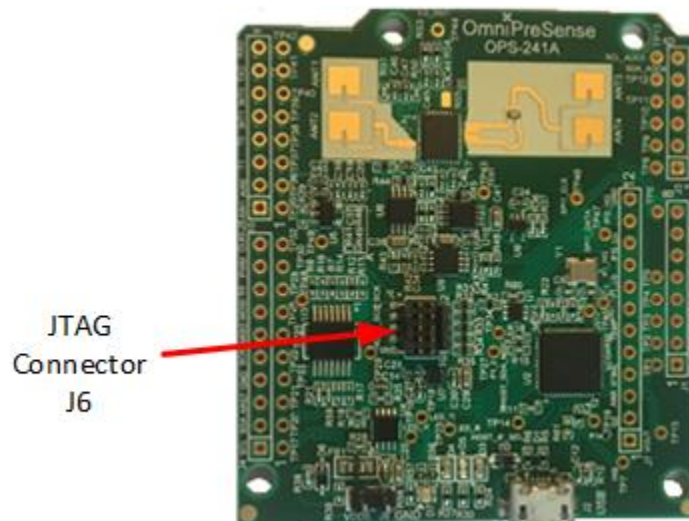

Figure 3. JTAG Connector J6
**Step 2.** Connect the JTAG programming tool connector to the JTAG connector on the OPS241 (J6) located in near the middle of the board (Figure 3). The connector is keyed, so it can only connect in one direction.